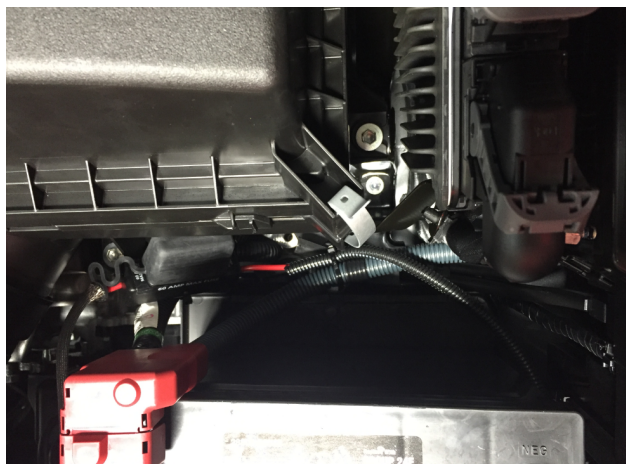

Fig. 21
6. Install fuse holder in space behind battery (white arrow), with ring terminal routed near positive battery connection (Fig. 21). Use cable tie to connect ring terminal side of fuse holder to existing harness.